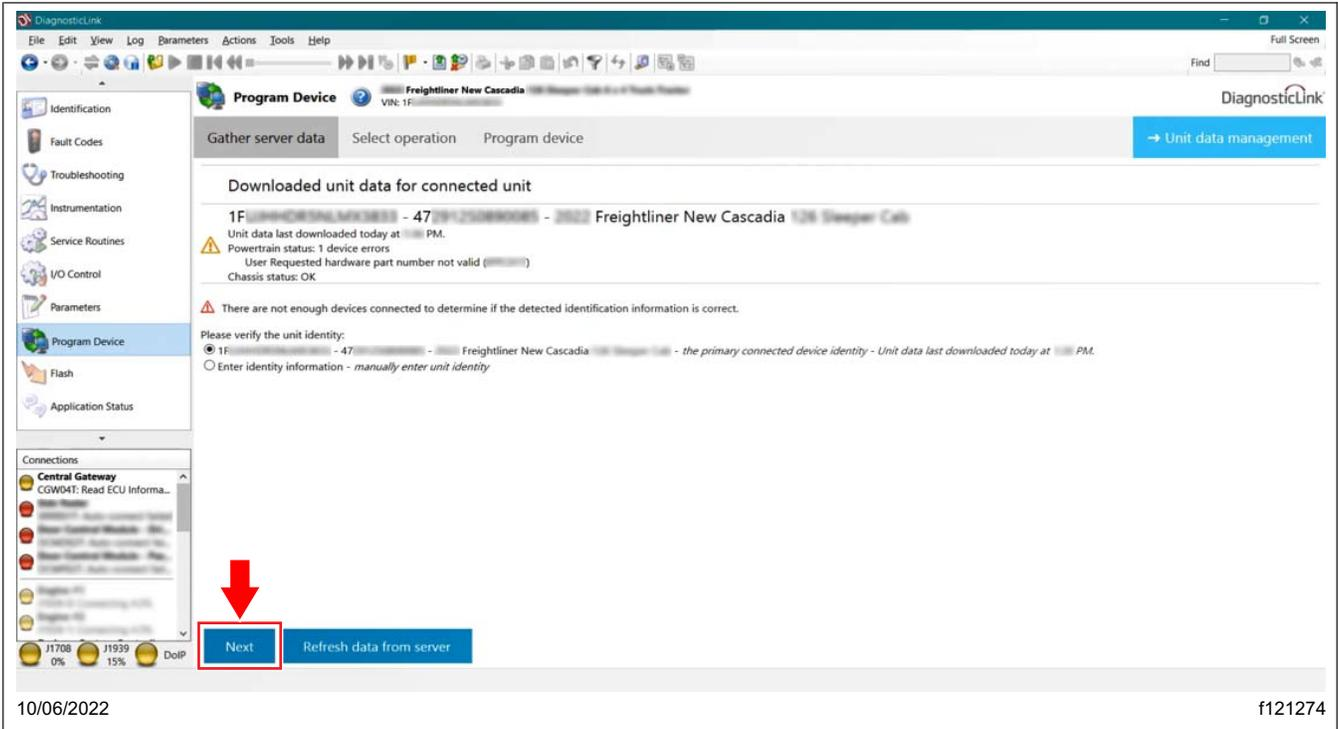

Fig. 15, Selecting Next
20. Once the latest data is retrieved, select 'Next.' See Fig. 15.